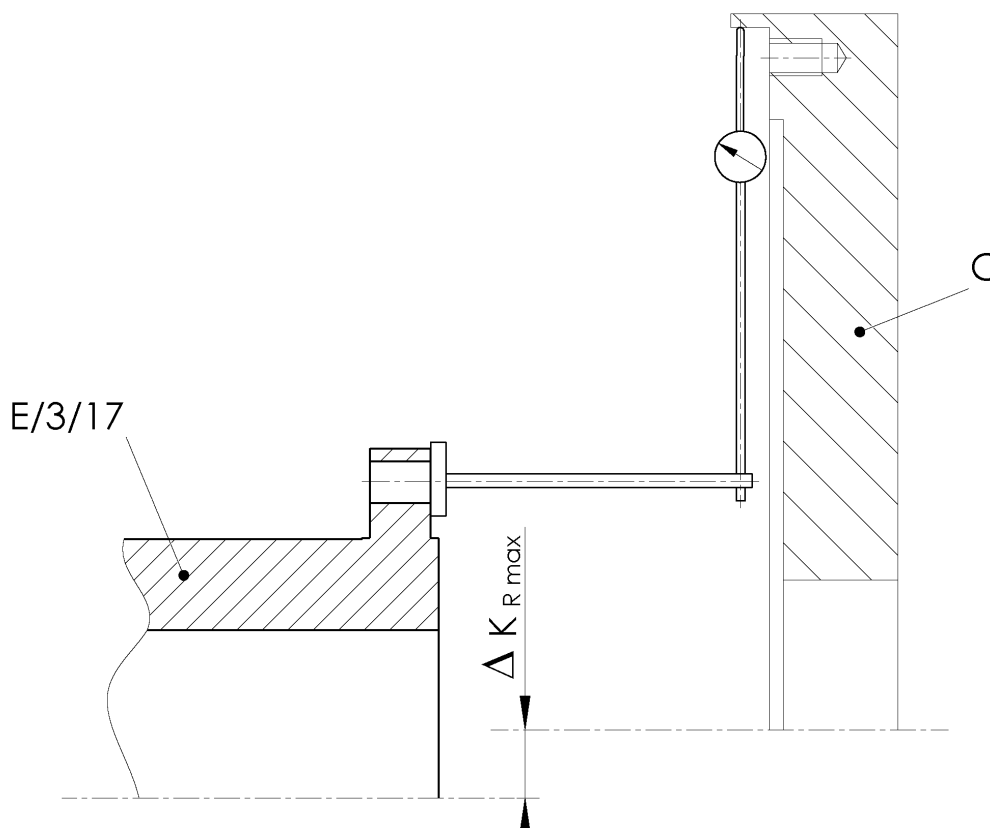

Fig. 5-2 Radial misalignment
- Measure the radial misalignment with a dial gauge (see Fig. 5-2).
- Turn the flange/hub/adaptor (E/3/17) with dial gauge and flywheel (C) slowly by 360°.